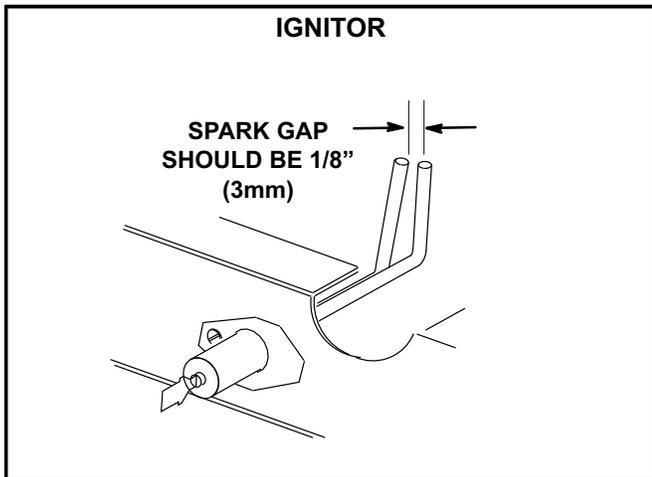

FIGURE 22
- Locate the ignitor under the right burner. Check ignitor spark gap with appropriately sized twist drills or feeler gauges. See figure 22.